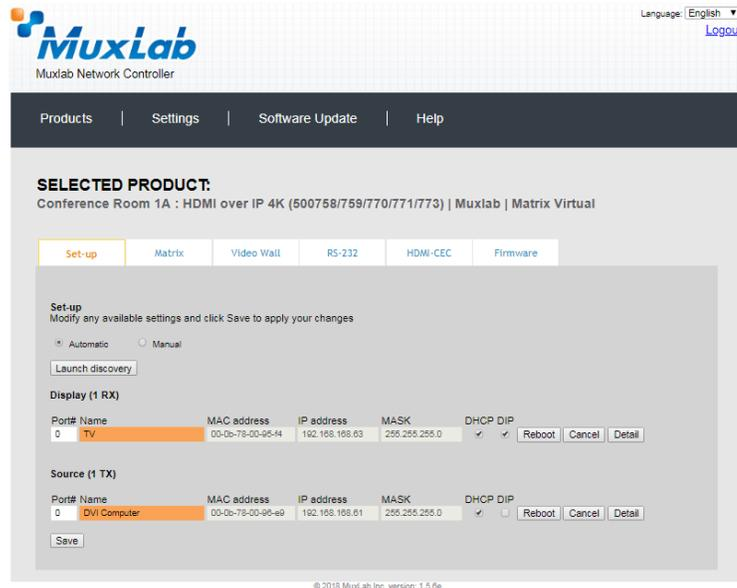

Figure 304: Name Editing
The system will scan the network for all source side devices (500771 transmitters), and display side devices (500758 receivers), and will display the scan results in tabular form (Figure 304).
Each 500771 transmitter and receiver can be assigned an arbitrary descriptive name, normally reflecting the end device that it is terminated to. To change the name of any Source (TX) device, click the **Name** field to edit its contents. Several **Name** fields can be edited before saving changes, as shown in Figure 304 (orange highlighted fields).